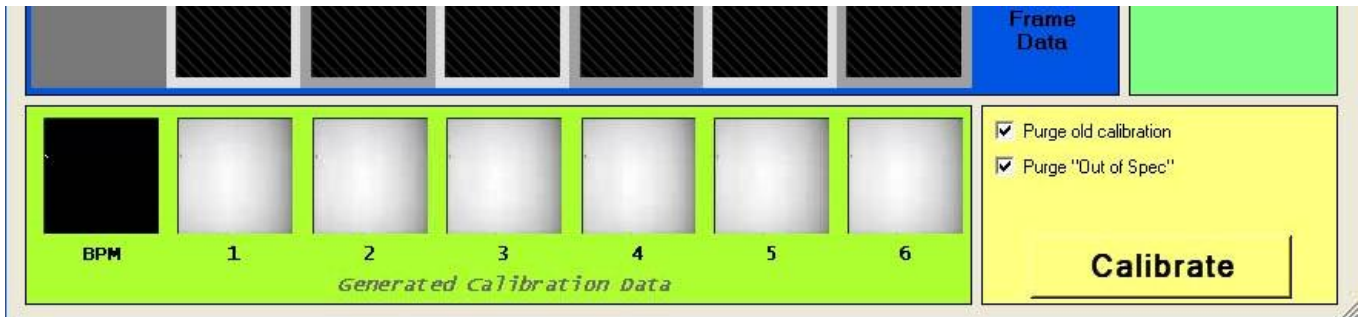

Figure 9
13. The lower calibration positions will fill with calibration image data to complete the ViZion DR calibration process. – Figure 9